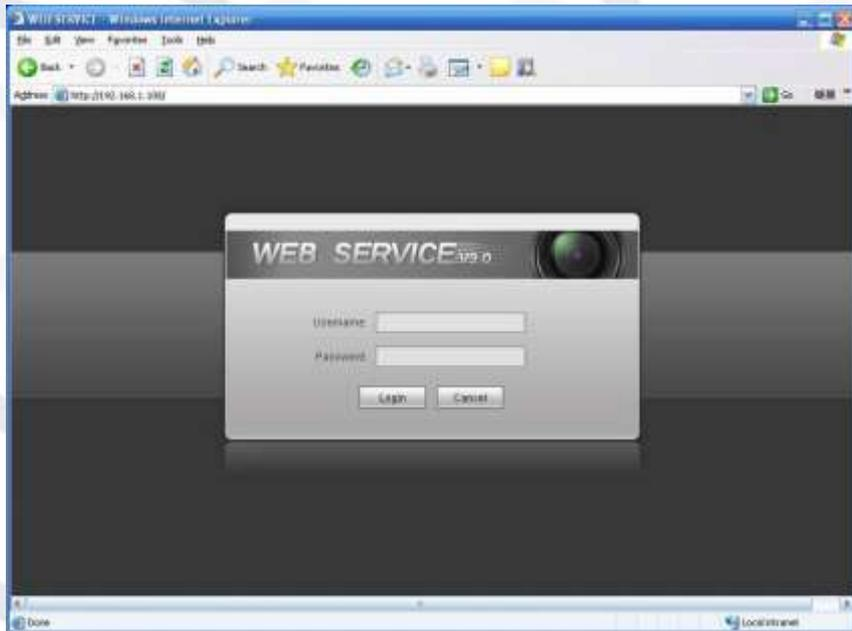

Figure 5-2 Web login
2. The login interface is shown as below. See Figure 5-2.